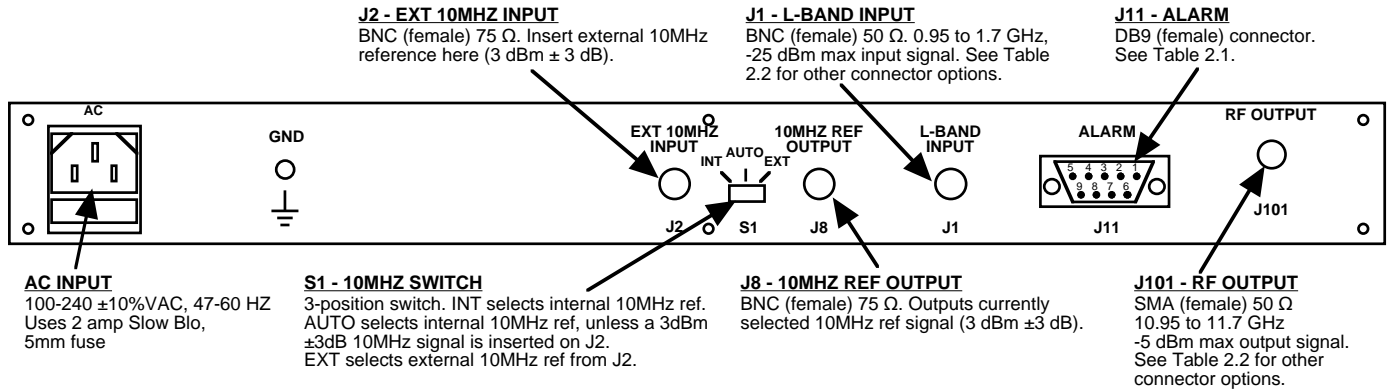

FIGURE 2.1 2115-109 Rear Panel I/O's
2.2 Rear Panel Input/Output Signals - Figure 2.1 shows the input and output connectors on the rear panel.
1. Connect a -40 dBm to -25 dBm signal to L-BAND INPUT, J1 (Figure 2.1).
6. Select either INT (for internal 10MHz ref), AUTO (for internal 10MHz ref UNLESS a external 10MHz, +3 dBm signal is connected to J2), or EXT (for external 10MHz, +3 dBm ref that is inserted at J2) on rear panel switch S1 (Figure 2.1).
8. Check that a 10MHz, +3 dBm \pm 3 dB signal is present at the 10MHz REF OUTPUT (J8) (Figure 2.1).